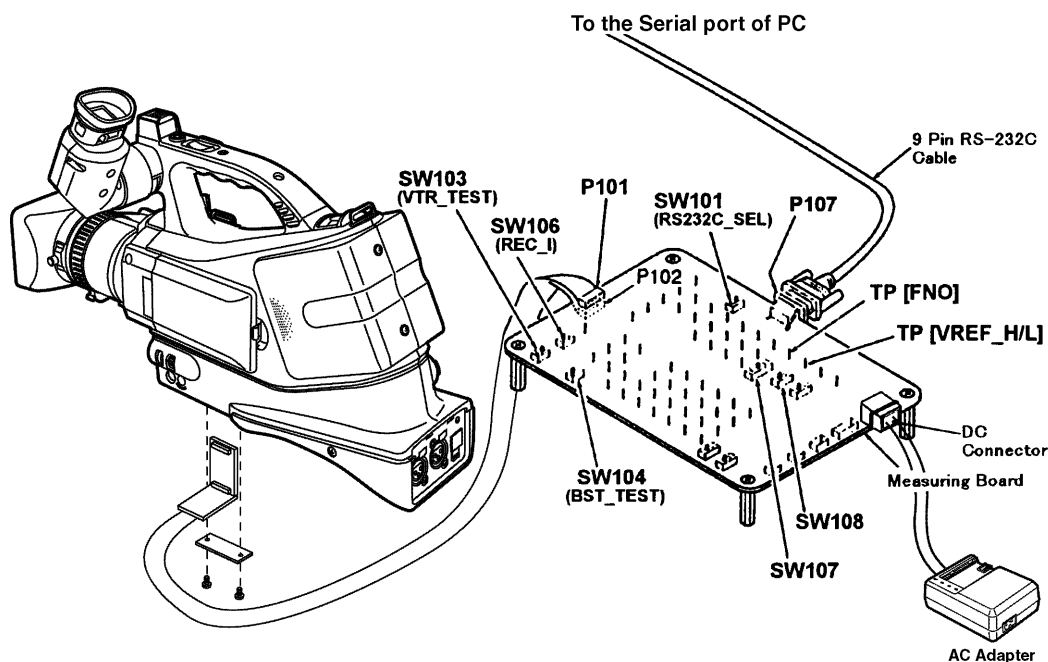

Fig.E2
The measuring board (VFK1308P) as shown in figure E2 has 2 types of RS-232C connectors 9pin D-sub connector and M3 RS-232C connector.
If an ordinary 9-pin RS-232C cross cable is available, connect it between the measuring board and personal computer as shown in figure E2.
5. Connect a 9 pin RS-232C cable between the Measuring Board and RS-232C connector on Personal Computer as shown in Figure E2.